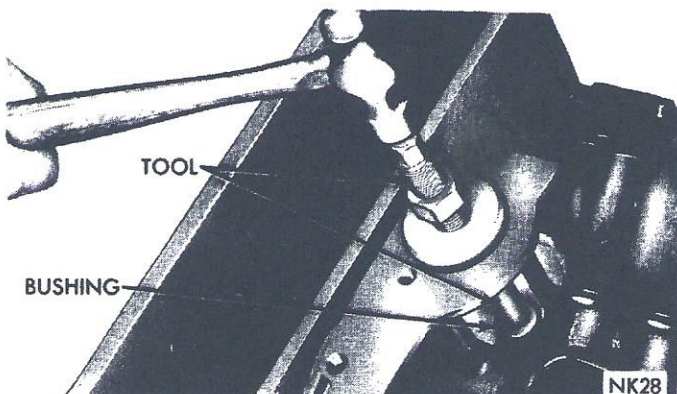

Fig. 40—Installing Distributor Drive Shaft Bushing With Tool C-3053
(2) Drive bushing and tool into position, using a hammer (Fig. 40).